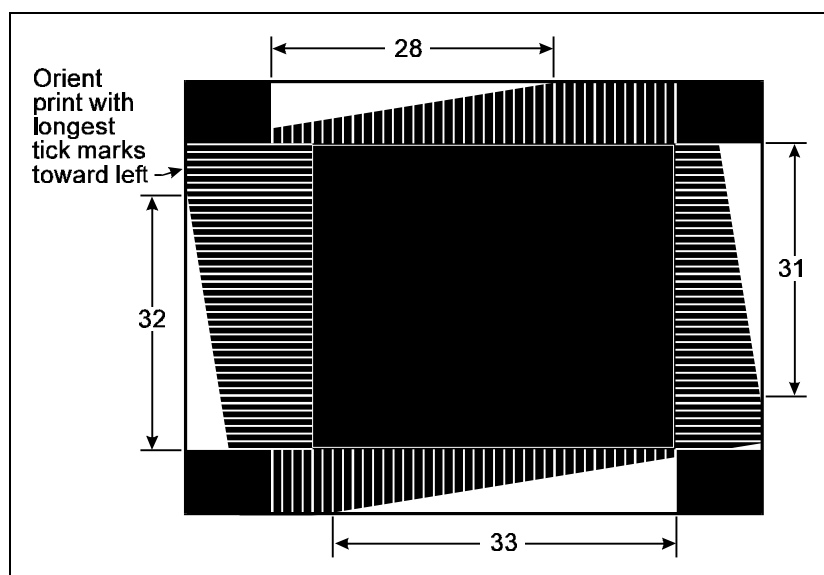

Figure 4-36. Typical ImagePrint Calibration Image
6. Select Print Calibration Image, wait for image exposure on the film recorder, then time and peel the calibration image (Figure 4-36).
8. Orient the print with the long tick marks to the left (Figure 4-36) and count the number of tick marks between the wide end of each white wedge and the point where the wedge runs off the edge of the image area.
The image in Figure 4-36, for example, would result in the following entries: